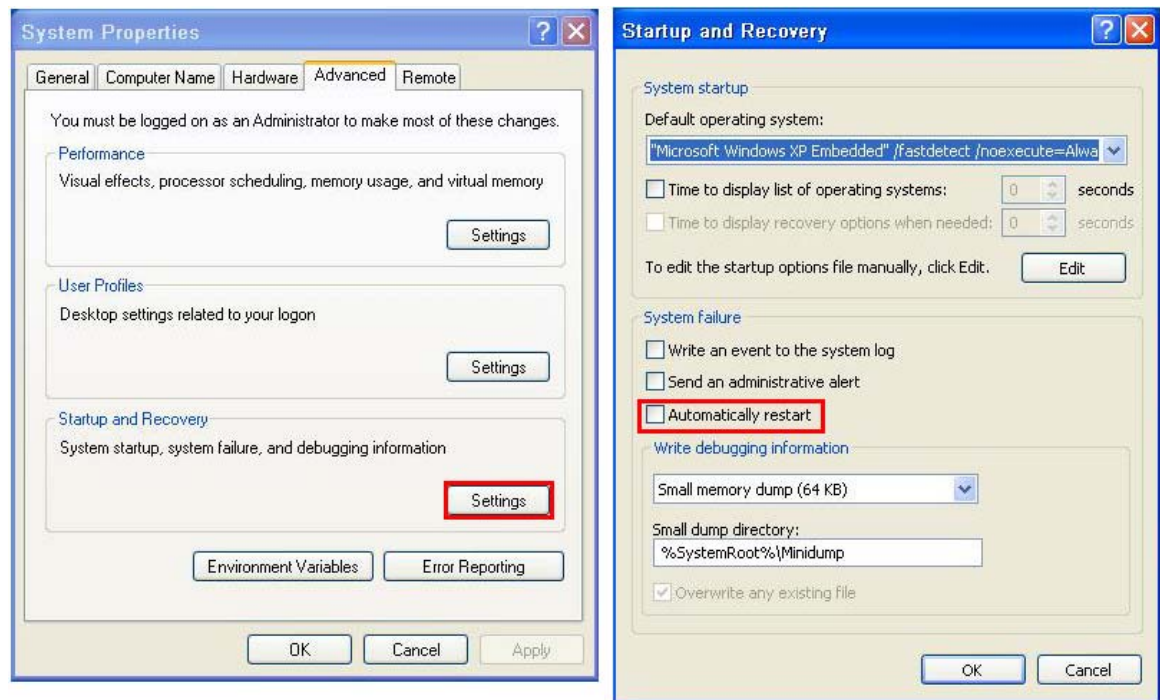

Figure A-43: Disable Automatically Restart
Step 1: Disable the automatically restart function before creating the factory default image. Go to: My Computer → Properties → Advanced. Click the Settings button of Startup and Recovery. Deselect “Automatically restart”. Click OK to save the settings and exit. (See **Figure A-43**).